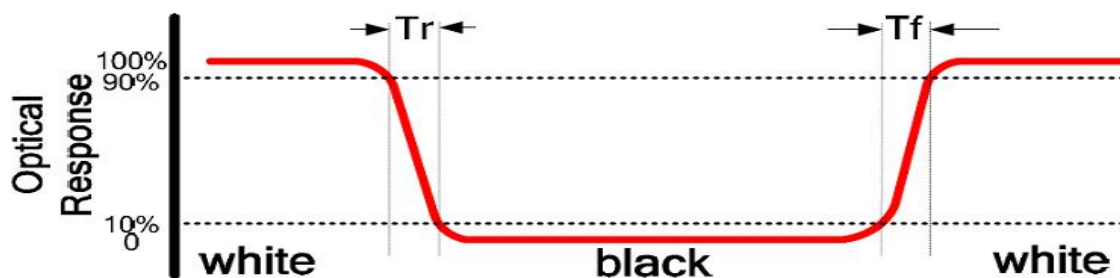

FIG2. Measuring method for Contrast ratio,surface luminance,Luminance
Note2.contrast Ratio(CR) is defined mathematically by the following formula ,For more information see FIG2.
备注 2. 对比度是由以下公式计算所得。详见 FIG2.
备注 3. 均匀度是在显示白色画面时,测试P1到P9的亮度,然后再用9个点亮度的最小值除以最大值。详见FIG2.。
Note5. Surface luminance is the LCD surface luminance with all white pixels,For more information see FIG2.
备注 5. 表面亮度是在显示白色画面时,测试的亮度值,详见 FIG2.
Note6.CIE(X,Y)chromaticity is the Center point value.For more information see FIG2.
备注 6. 选择中心点,分别测试 X, Y 值,详见 FIG2.。